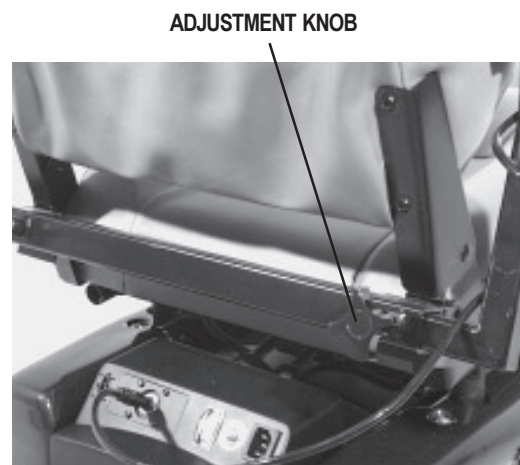

Figure 12. Armrest Width Adjustment
1. Locate the two knobs on the armrest receiver bracket. See figure 12.